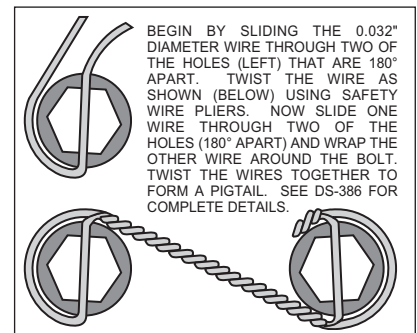

Figure 2. Safety Wire Diagram
- Apply red *Loctite*® 271 to bolt threads (3) before assembly of the caliper mounting bracket (1). Mount bracket (1) to dust face plate of spindle using lock washers (2) and bolts (3). Torque bolts (3) to 22 ft-lb. **NOTE:** Be sure the heads of the caliper bracket (1) insert nuts are facing outward toward the wheel.
- Install wheel studs (4) into the hub (5). Torque to 77 ft-lb. **NOTE:** There are two five lug patterns in the hub (5 x 4.50 and 5 x 4.75). Make sure of the correct hole pattern for the correct wheel application before installing studs into hub.
- Pack the large inner bearing cone (6) with high temperature disc brake bearing grease (available from your local auto parts store) and install into the backside of the hub (5).
- Install the grease seal (7) by pressing into the backside of the hub (5).
- Attach rotor adapter plate (8) to rotor (9) using bolts (10). Torque bolts (10) to 180 **in-lb**. Safety wire bolts (10) using standard 0.032 inch diameter stainless steel safety wire as shown in Figure 2. Please refer to Wilwood's data sheet DS-386 (available at www.wilwood.org/ds386.pdf) for complete safety wire installation instructions. **NOTE:** The large inside diameter side of the rotor (9) faces toward the rotor adapter plate (8) with the dished side of the rotor adapter plate (8) facing away from the rotor (9).
- Mount the adapter/rotor assembly (8 and 9) to the hub (5) using lock washers (11) and bolts (12). Torque bolts (12) to 22 ft-lb. Safety wire bolts (12).